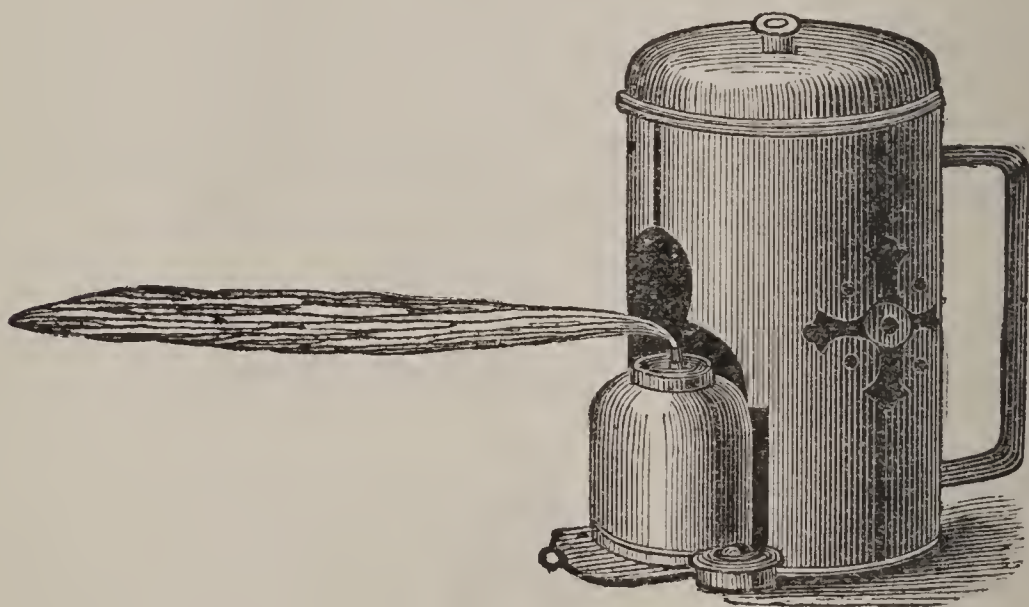

FIGURE 2.
*Alcohol Lamp, Self-Blowing.*—This lamp, shown in Fig. 2, very convenient when continued blowing is required, or when the “knack” of using the common plow-pipe cannot be readily acquired. It may be used for soldering, brazing small articles, or hardening small tools. Size  $2\frac{1}{2}$  inches diameter and 5 inches high, \$2; about 3 inches diameter and 6 inches high, \$3.